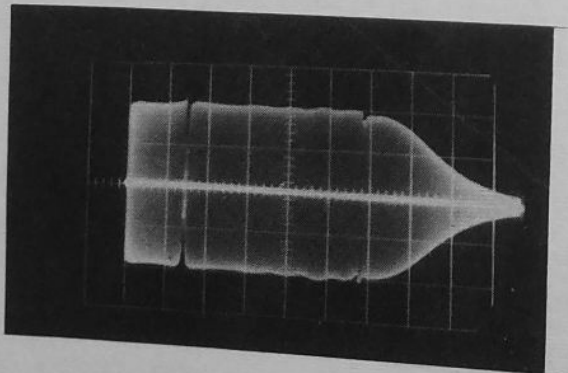

Figure 25. Input, Video Input 2J13. Output, 2V14, Pin 1. Marker on 6 mc.
21. Adjust 2C103 for a flat response to 5 mc. (See Figure 25.)
22. Turn the TEST switch to CHROMA VAR, position 5. Vary the CHROMA GAIN control. This should cause the high frequency response to vary above and below that shown in Figure 25.